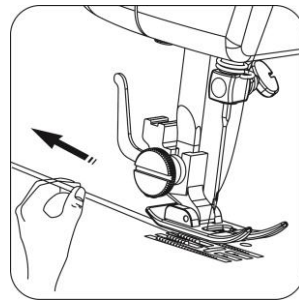

Fig.14
- 4) Replace the bobbin cover. Separate the two threads and pull them to the back of the machine under the presser foot, leaving about 15cm hanging there. (Fig. 14)